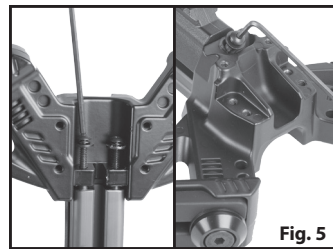

Fig. 5
3. Slide the riser (Fig.1 No. 16) onto the barrel. Install and tighten the limb screws (3) (Fig. 5), using the small hex wrench.